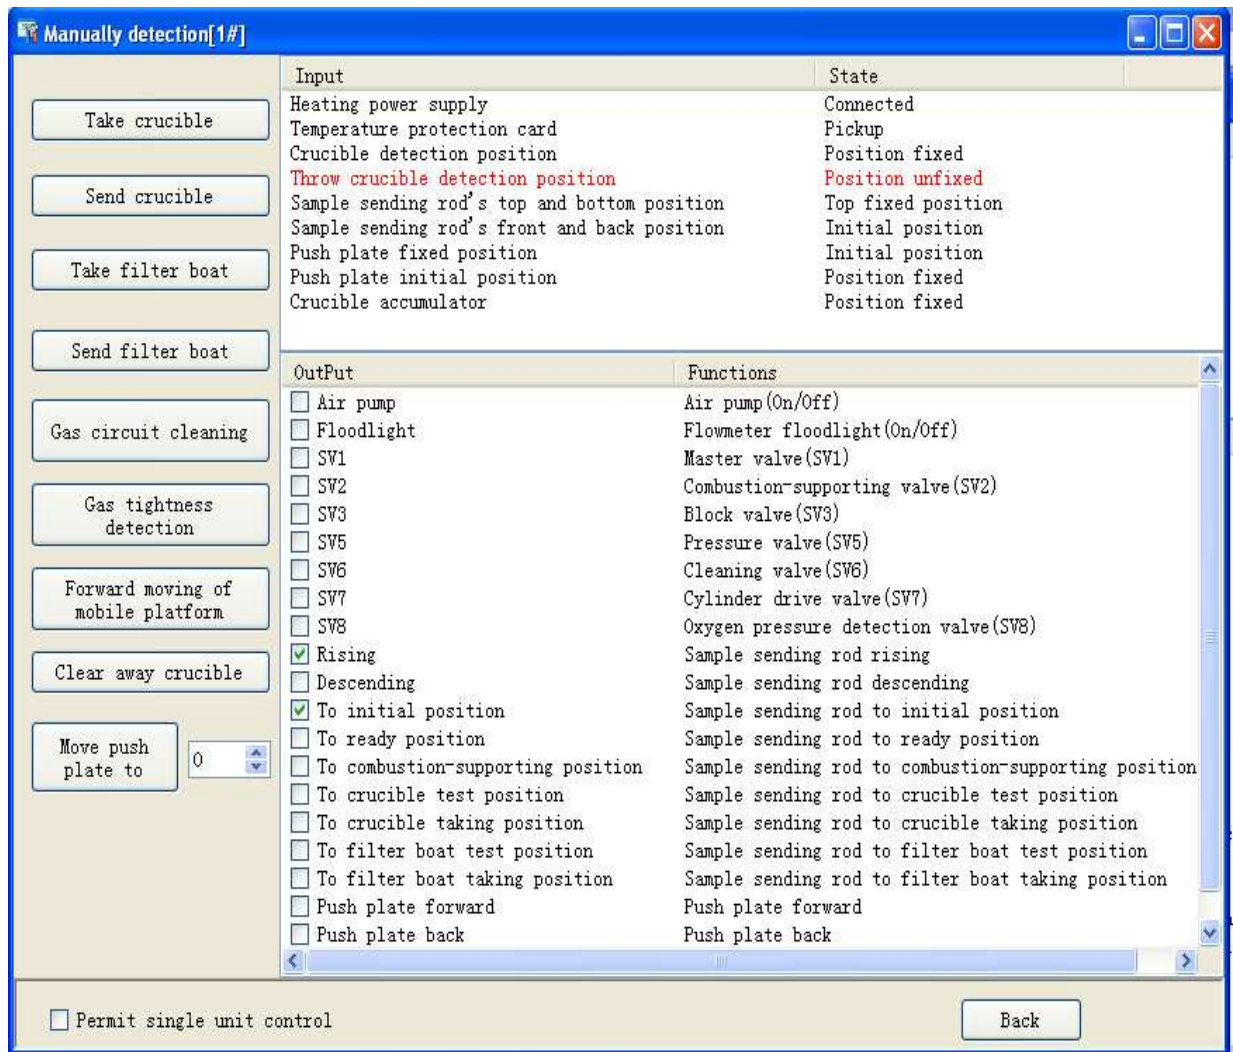

Fig. 4-3-13
**1. Manual detection:** Click this item or "Manual Detection" icon, the detection window shown in Fig. 4-3-13 will popup.